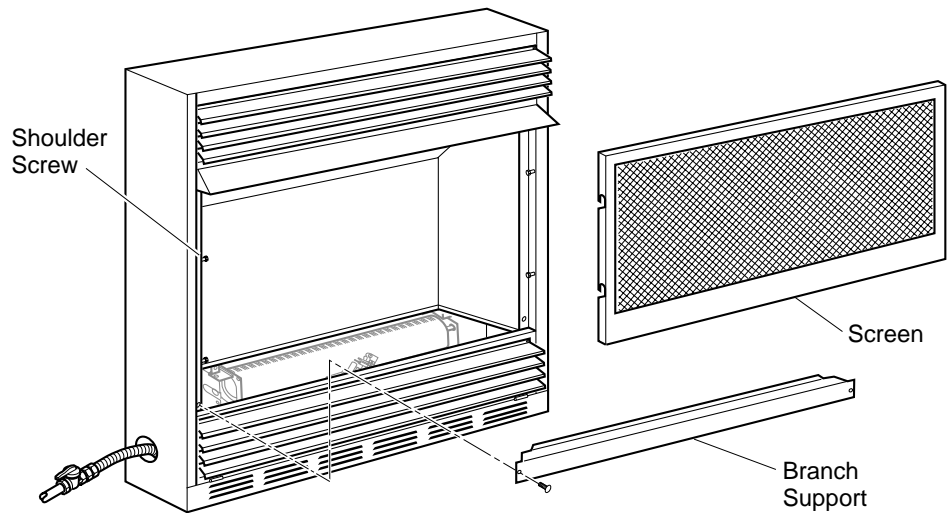

Figure 23 - Removing Branch Support From Fireplace
2. Remove screws that attach branch support to fireplace (see Figure 23). Carefully lift up branch support and remove from fireplace (see Figure 23).
NOTICE: Most building codes do not permit concealed gas connections. A flexible gas line is provided to allow accessibility from the fireplace (see Figure 23). The flexible gas supply line connection to the equipment shutoff valve should be accessible.